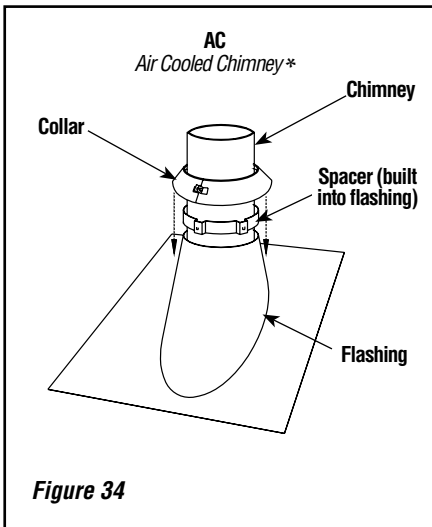

Figure 34
5. Then, put the roof flashing in place and seal the joint between the roof and the flashing with roofing pitch (see **Figures 34 and 35**). For sloping roofs, place the flashing under the upper shingles and on top of the lower shingles. Nail the flashing to the roof, using roofing nails.